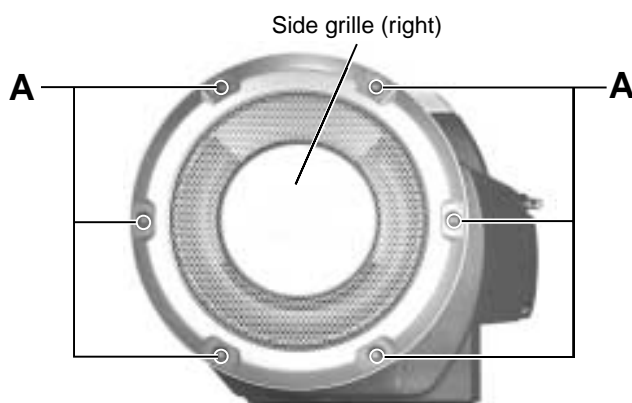

Fig.2
5. Solder is put up before the card wire is removed from connector CN601 on the microcomputer board as shown in Fig. 2.